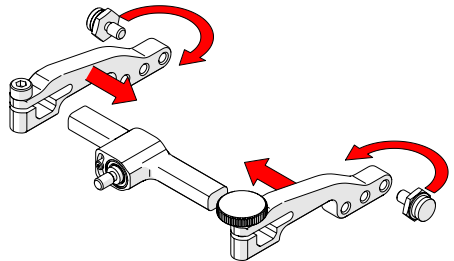

Fig. 215 - Attach arms and move buttons
4. Place the pivot buttons on the inside of the probe holder arms (Fig. 215) using a 3/8 in wrench (Fig. 2). Slide the arms onto the yoke and tighten the probe holder arm adjustment knob and the arm clamp screw.